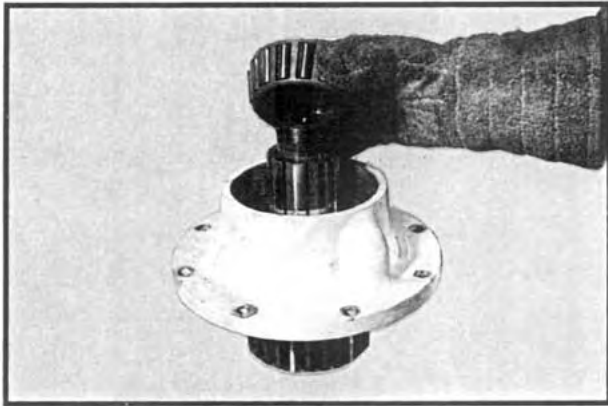

Fig 40
4. Press the bearing cups into the carrier and place the carrier assembly into position. Heat and install the remaining bearing cone assembly. See Figure 40. Do not install the oil seal at this time. Slide the yoke (or companion flange) onto the shaft. Install and torque the locknut.